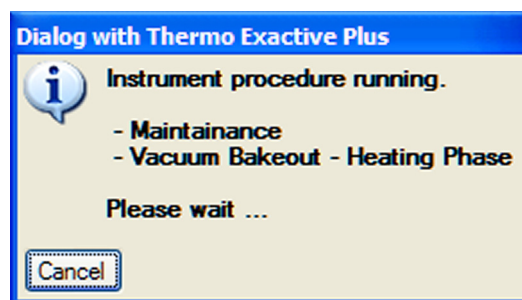

Figure 8-3. Message box: Vacuum Bakeout active
- The dialog box disappears and the baking procedure starts. The instrument indicates the active bakeout procedure by a flashing Vacuum LED. (See Figure 3-2 on page 3-5.) Additionally, the Tune software displays a corresponding message box. See Figure 8-3.